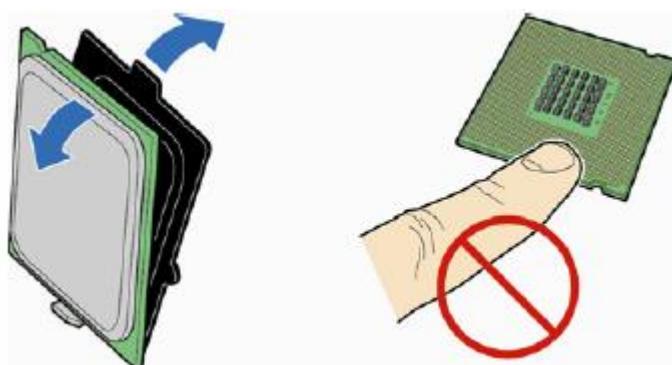

Figure 23: Remove the processor from the protective cover
3. Remove the processor from its protective cover. Hold the processor only at the edges, being careful not to touch the bottom of the processor (see Figure 23).
4. Hold the processor with your thumb and index finger oriented as shown in Figure 23 to align your fingers with the socket finger cut-outs. Make sure that the processor Pin 1 indicator (gold triangle) is aligned with the Pin 1 chamfer on the socket (Figure 23, B) and that the notches on the processor align with the posts on the socket (Figure 23, C). Lower the processor straight down without tilting or sliding it in the socket (Figure 23, A).